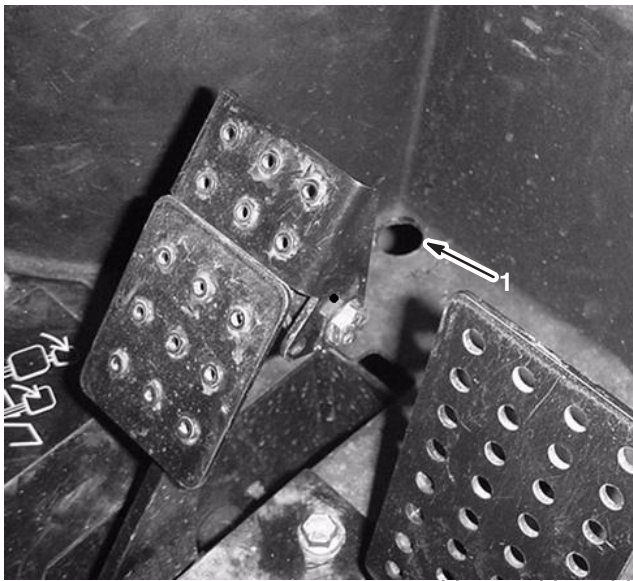

Figure 1
3. Drill a hole (7/8 in. dia.) in the floor of the vehicle in front of the brake pedal in the location shown in Figure 1.